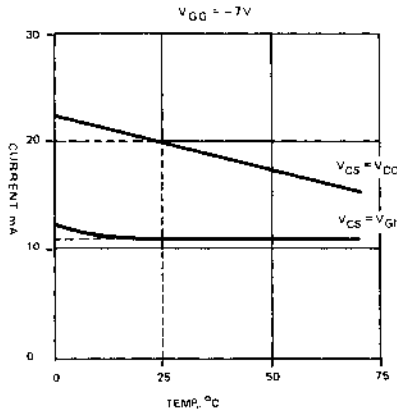

Fig.9
- See also Typical 7-Segment Output Curves, Figs. 9, 11, & 13 (-12V $\pm 1V$).